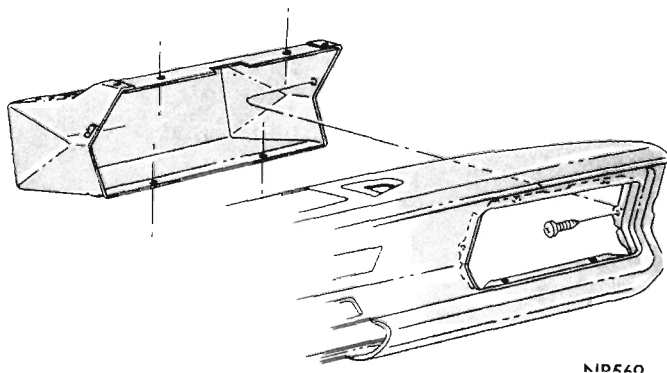

Fig. 1 - Glove Box - Dart
The glove box is a one piece folded type (Figs. 1, 2 and 3).
- (2) Remove screws attaching box to top and side areas of opening (Fig. 1, 2 and 3).
- (3) Remove glove box from under and to rear of instrument panel.